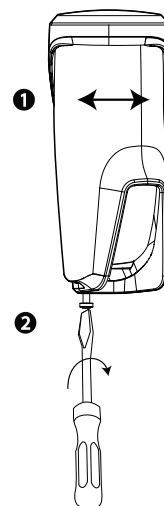

Figure 7 -
Note: When the device is inserted into the bracket, it can be rotated again to a more exact position (see figure 7, number 1).
5. While the LED is blinking, fasten the detector to the bracket by tightening the bottom screw (see figure 7, number 2).